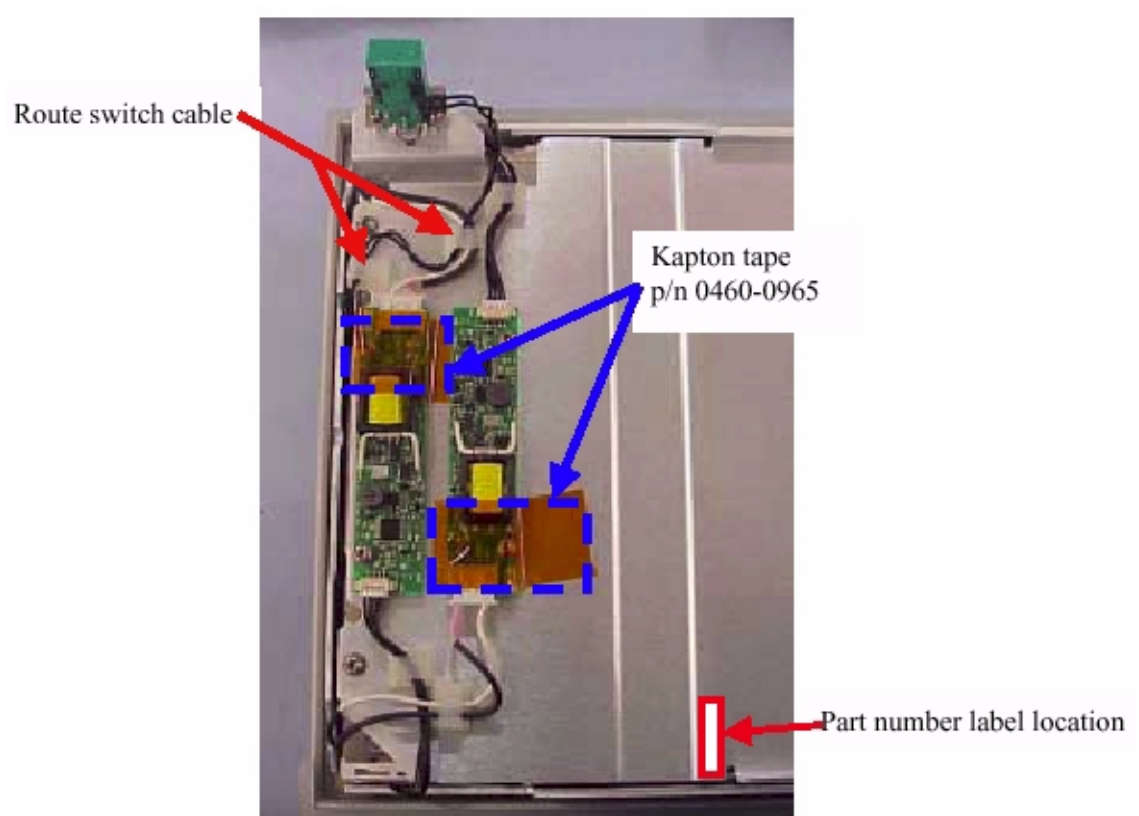

Figure 3-50. Location of insulation tape
- 4 Be careful to install a new piece of insulating tape (pn 0460-0965) over the high voltage components. See Figure 3-50. Lay the cover aside for reassembly later.